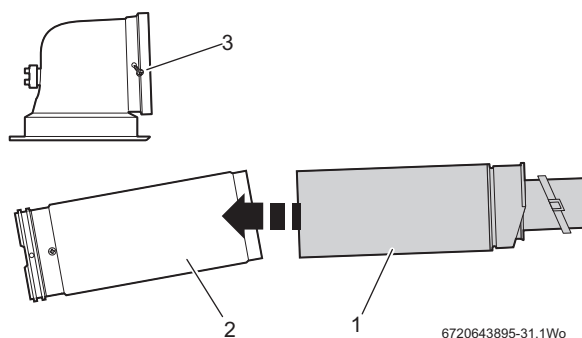

Fig. 32 Reducing the standard terminal
- ▶ If the required length is less than 350mm the standard telescopic flue can be modified, refer to fig. 32.